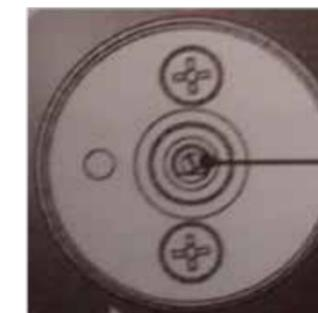

Figure 2
## Minimum flow of non-valved cooking hob taps (Figure 2)
- Insert a small screwdriver into the shaft of the gas valve and adjust the internal screw until the correct low flame is obtained; see figure 2